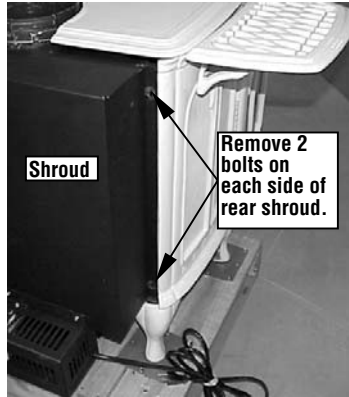
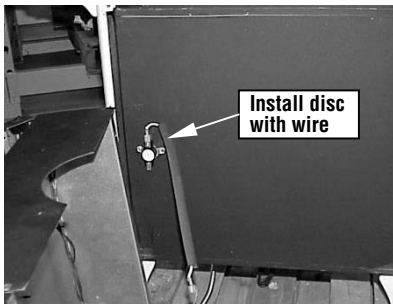

Figure 3
Figure 4
3. Using a 7/16" nut driver or socket, remove the 4 bolts on the rear shroud as shown in Figure 3. Carefully lift off the shroud and turn it to the side (see Figure 4).
4. Using a 1/4" nut driver install the fan disc with white wire onto the stove back (install with 2 existing screws as shown in Figure 4).